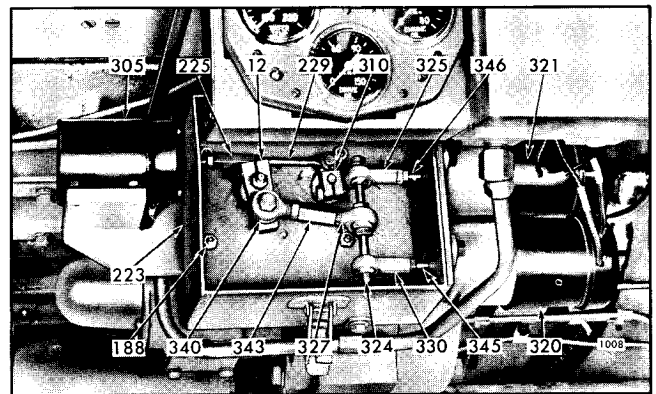

Fig. 6 - Throttle Control Linkage Arrangement
2. While still holding the buffer screw from turning, tighten lock nut (58).
4. Refer to Fig. 6 and connect the spherical rod end bearing (340) to the throttle control lever (12) that was previously removed.
With the engine governor adjustments performed, the governor shut-down solenoid (305) and shut-down lever (310) shown in Fig. 6 may be adjusted as follows:
3. Refer to Fig. 6 and adjust turnbuckle (343) until the throttle control lever (12) is parallel to the throttle control operating beam (324) and tighten the lock nut. This is done merely to find a starting point.